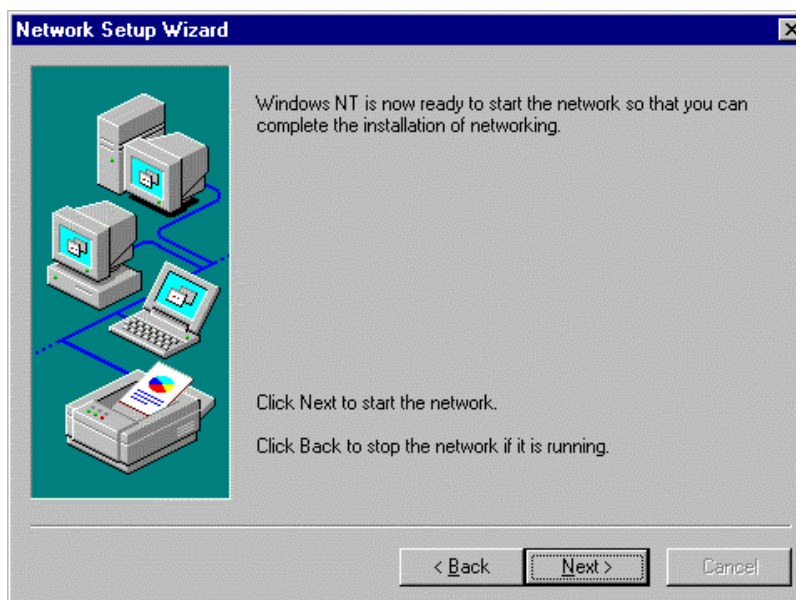

Fig. 8-26
- ▶ Select "Next" in the dialog box. Windows then attempts to start the network (Fig. 8-26).